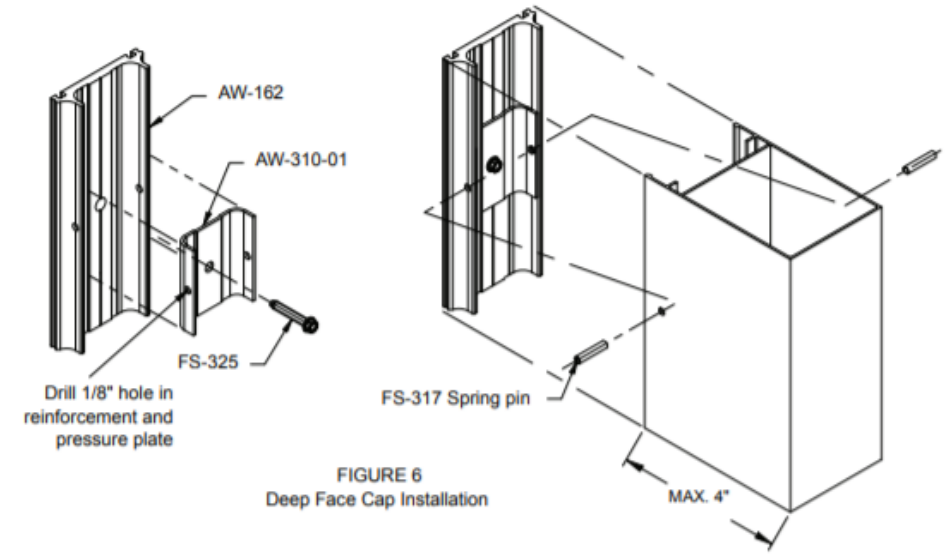

FIGURE 6
2.7 Pressure plate reinforcement AW-310 must be installed at each horizontal to vertical intersection for deep face caps as noted in 2.8. Reinforcement will be held in place with FS-325 pressure plate fastener. Face cap, pressure plate and reinforcement will be fabricated with .125" hole on each side at center of face cap. A FS-317, 1/8" x 3/4" lg dowel pin (part # 35821) must be inserted at each side of face cap to secure the cap to the reinforcement. See FIGURE 6.